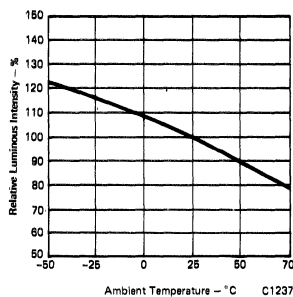

Fig. 3. Relative Luminous Intensity vs. Ambient Temperature
- The curve in Figure 3 is normalized to the brightness of 25°C to indicate the relative luminous intensity over the operating temperature range.